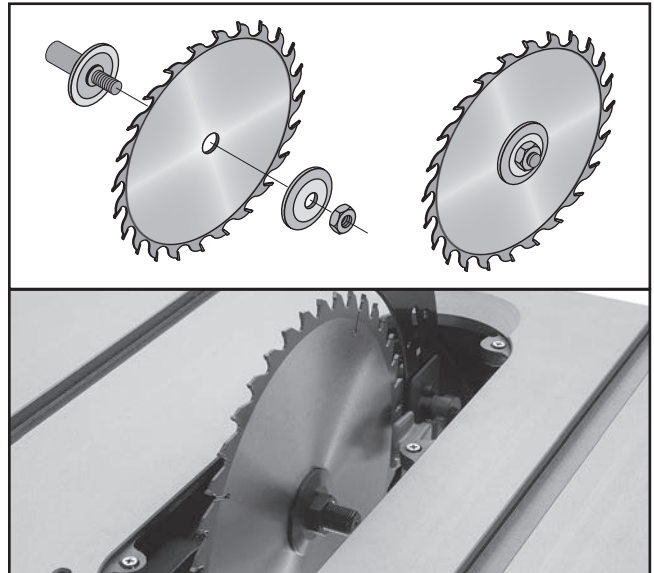

Figure 42. Correct order of installation with teeth facing the correct direction.
4. Install new blade, flange and arbor nut on arbor, as shown in **Figure 42**, with upper teeth facing front of the saw.